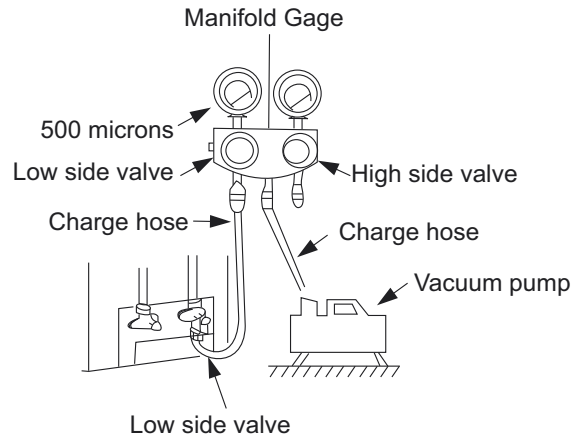

Fig. 27 – Manifold
3. Fully open the low side of manifold gage (see Fig. 27).